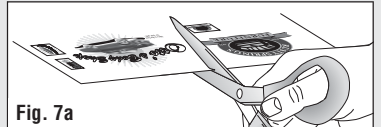

Fig. 7a
- Cut out Decals, leaving a slight edge (Fig. 7a).